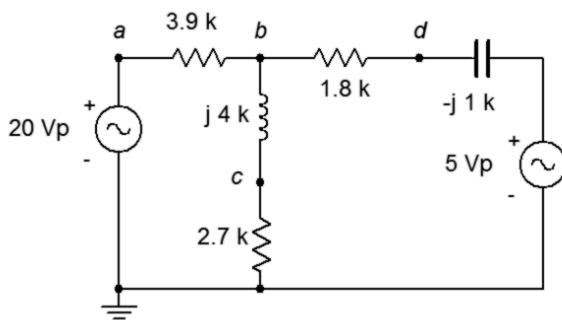

Figure 5.5
9. In the circuit of Figure 5.5, use Superposition to find v_b and v_{cd} . The sources are in phase.
10. In the circuit of Figure 5.5, use Superposition to find the current through the capacitor. The sources are in phase.